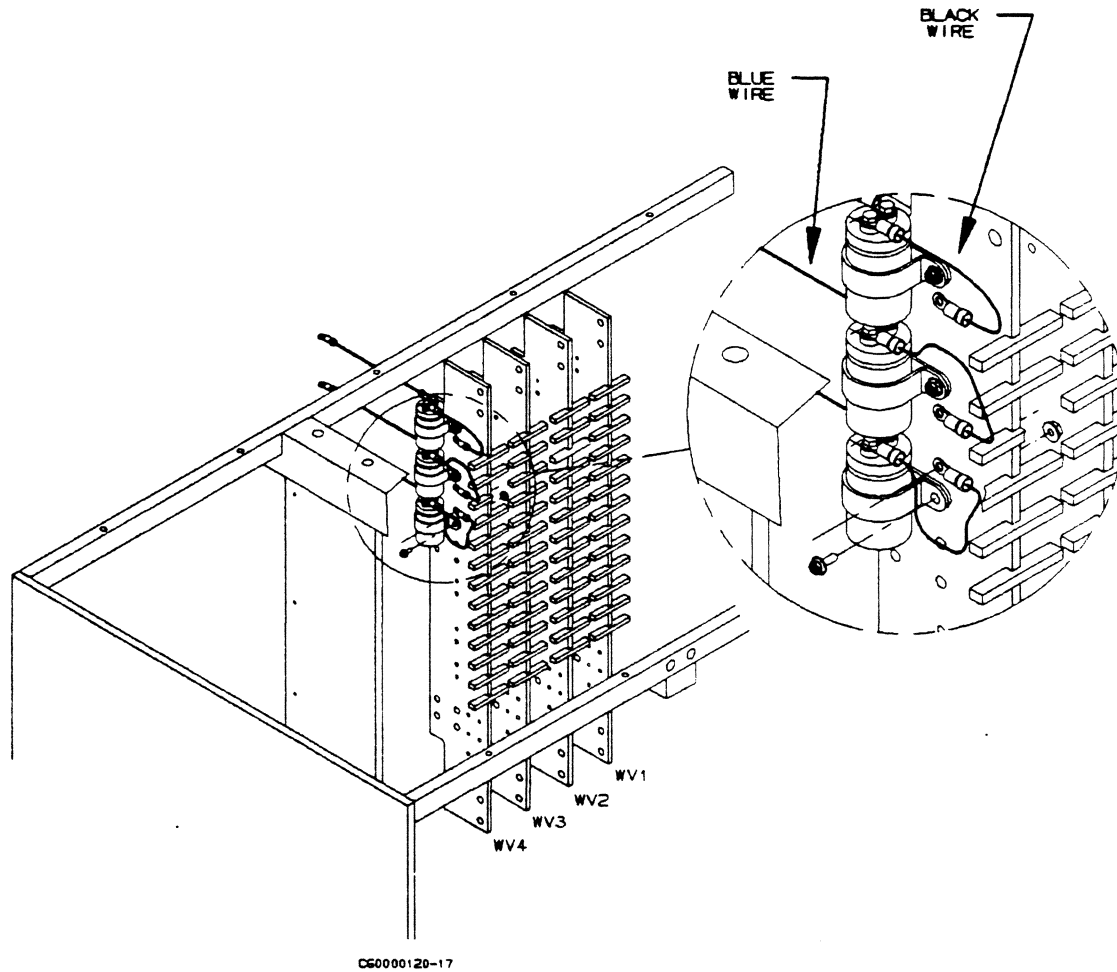

Figure 3-24. Capacitor Installation on CP-1
- 7. Attach three capacitors marked WV4 to side of WV4 as shown in figure 3-24.